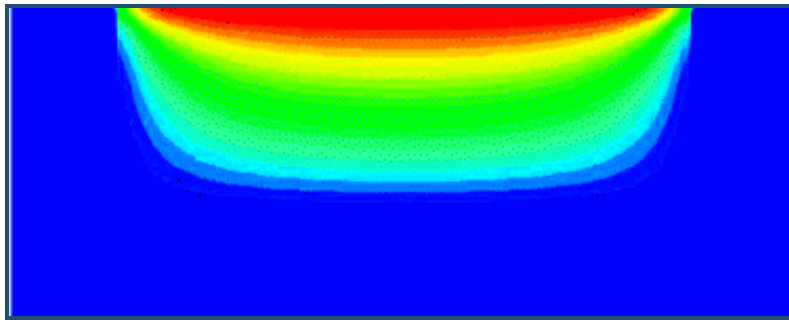

Figure 7.1: Temperature contour of single material
5. Analyze the results using the Ansys CFD post to get the contour as shown in Figure 7.1.